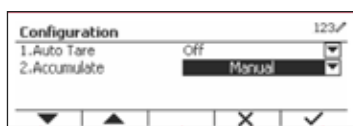

Figure 30
- Gross weight and Net weight cannot be accumulated at the same time – only Gross Weight or Net Weight can be accumulated. (See Figure 30)